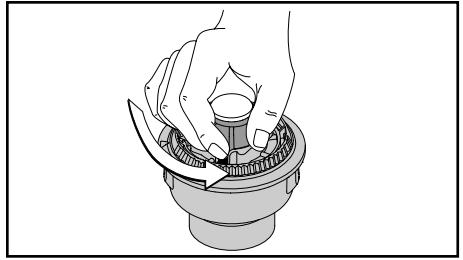

Fig. 19
- If you need to remove the Bump Knob to clean the spool or remove jammed, excess line, hold the outer spool, and unscrew the Bump Knob counterclockwise (Fig. 19).